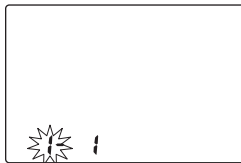

Fig. 2
1. When the unit is off, press and hold the **START** and **MEM** button at the same time. The unit will beep once and the month will begin to flash, Fig. 2.